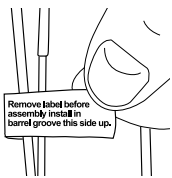
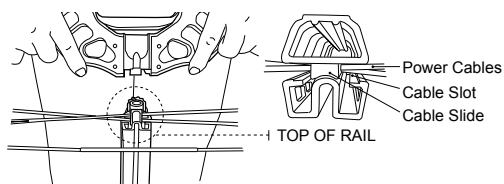

Figure 6
Figure 7
- 11 Be sure the cable slide is properly attached to the power cables. If present, remove the protective label from the cable slide (See Figure 6). Apply a generous amount of rail/string lubricant to the crossbow string and power cables. Rub in with your fingers or small piece of leather to saturate the strands. Position the cable slide “groove side up” so the cable slide will slide properly into the cable slot of the barrel (See Figure 7). **TIP - Slightly rotate the crossbow unit to start cable slide and power cables down into the cable slot. Once started the crossbow unit can be rotated back.**